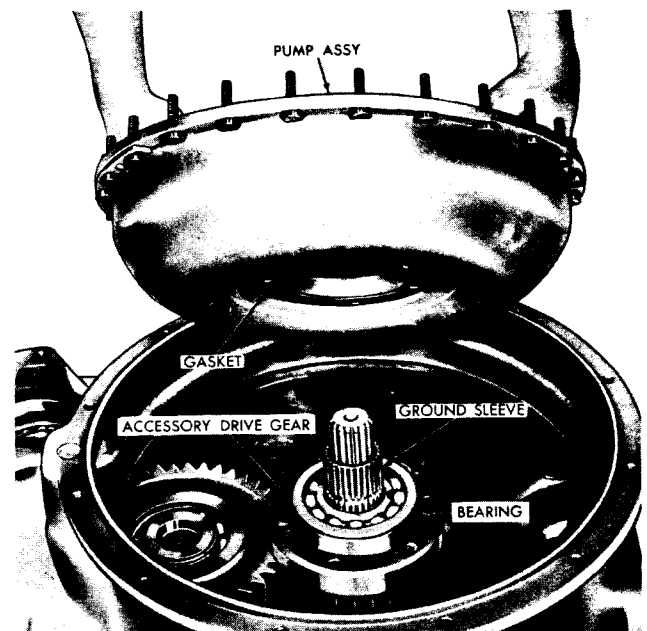

Fig. VII-28. Installing torque converter pump assembly
drive gear. Install the bearing and drive gear onto the converter ground sleeve (fig. VII-28).
(2) Install the converter pump gasket and pump assembly onto the bearing and gear (fig. VII-28).
(1) Install the double-row ball bearing assembly (fig. VII-28) into accessory drive gear. Install the bearing and gear onto the torque converter ground sleeve.
(2) Install the gasket and the torque converter pump assembly onto the bearing and pump drive gear (fig. VII-28).